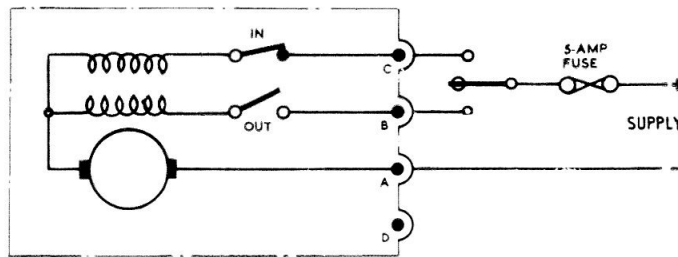

Fig. 2. Circuit diagram
3. The motor is rated at 0.008 h.p. at 5,800 r.p.m., and the field coils also control the operation of the brake. The drive from the motor is taken to the piston through an epicyclic gear train, with a reduction of 586:1. The travel of the piston is controlled at its extreme positions by two limit switches, operated by a trip lever, and connected as shown in the circuit diagram in fig. 2. They are of the make-and-break type, and are fitted with silver contacts.